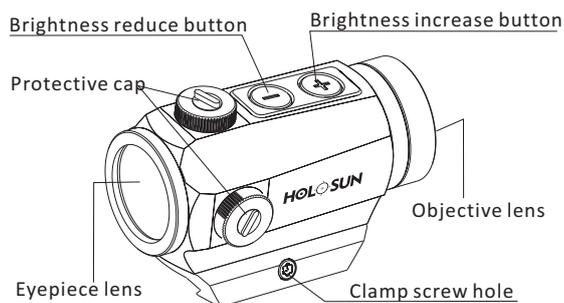

Fig1 PARALOW HS403A Red Dot Sight
3. First open the protective cap (see Fig1), position slot type screwdriver on the slotted screw, then rotate the screw to right or left for adjustment. Each left or right click is for one adjustment equivalent to 0.5MOA value.